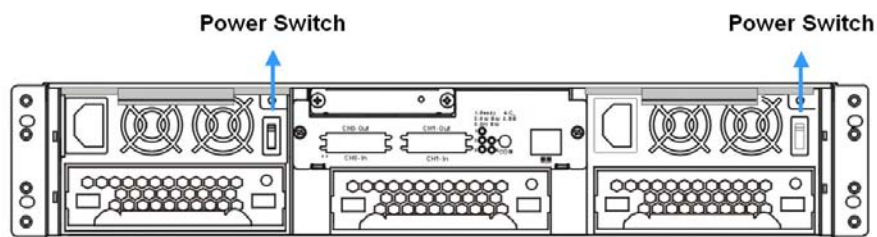

Figure 4- 4: Subsystem Power Switches
4. The “Power” LED on the front LCD panel will turn blue. (See **Figure 4- 4**)